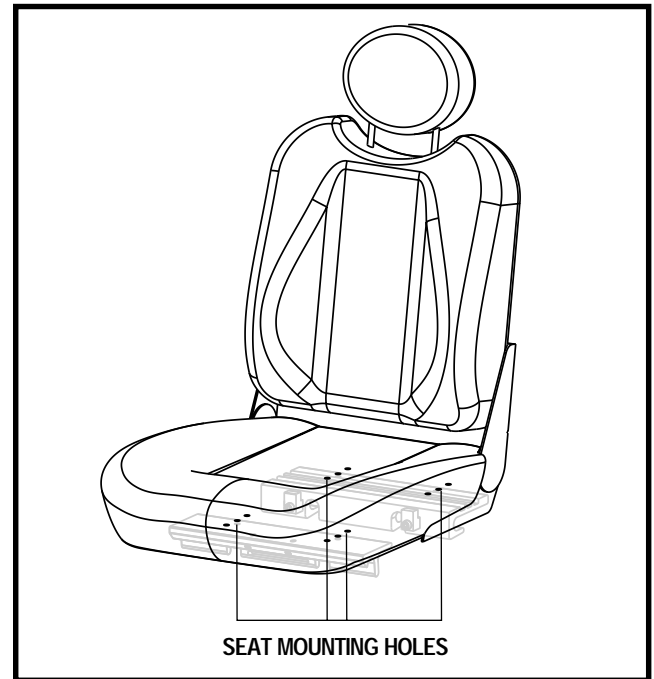

Figure 16. Seat Mounting Holes
5. Reposition the extrusions on a different set of mounting holes. You must move both extrusions the same number of holes either forward or backward. See figure 16.